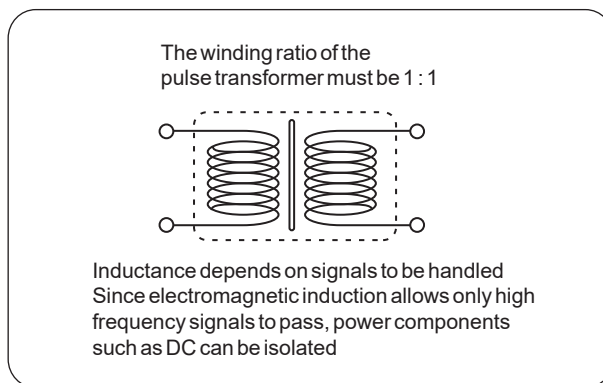

Fig. 9.1 Pulse Transformer
- (1) Electronic components (such as circuit boards) containing CUnet ICs can be electrically insulated from the network (Fig. 9.1).
- (2) If there is no pulse transformer and a failure occurs where the driver continuously drives the network, all signal transmissions will cease, forcing the entire user system to stop.